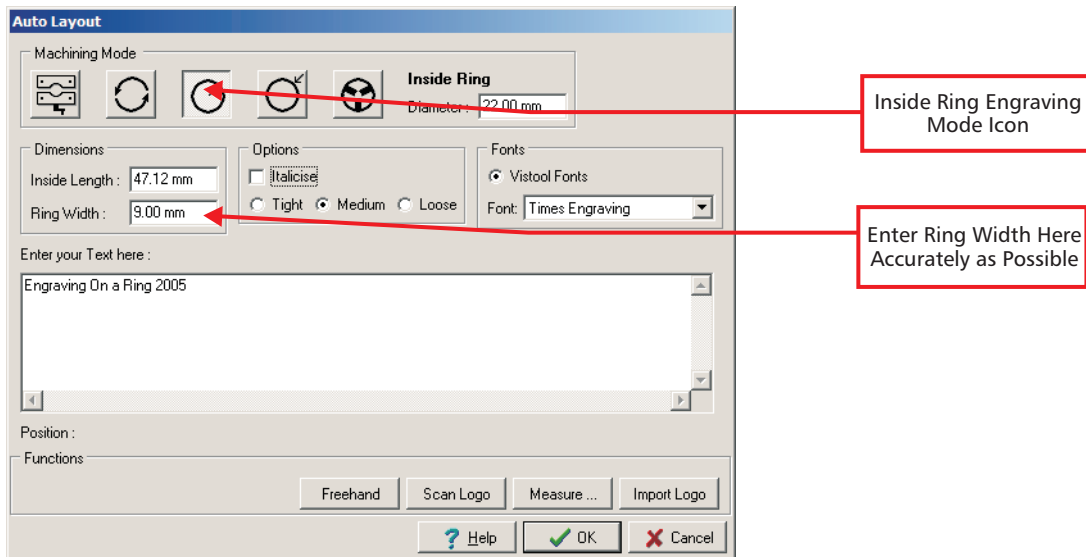

Figure 5
- 15 In the Auto Layout Dialogue Box, ensure that the Inside Ring mode is selected, third icon from the left. In Diameter enter the diameter of the ring i.e. 22 mm, in the Ring Width enter the width of the ring i.e. 9 mm. In Fonts select the font you require to use, see Notes at the end of this chapter. You can now enter your text i.e. TEXT ON A RING 2005, all these settings are shown in Figure 5, Click On "OK".